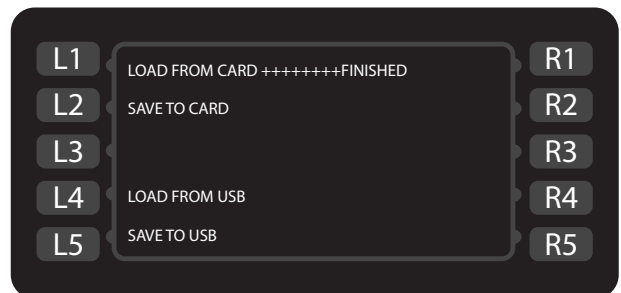

Figure 16: Loading...Finished
3. Verify the oven beeps and reads “FINISHED” (Figure 16).